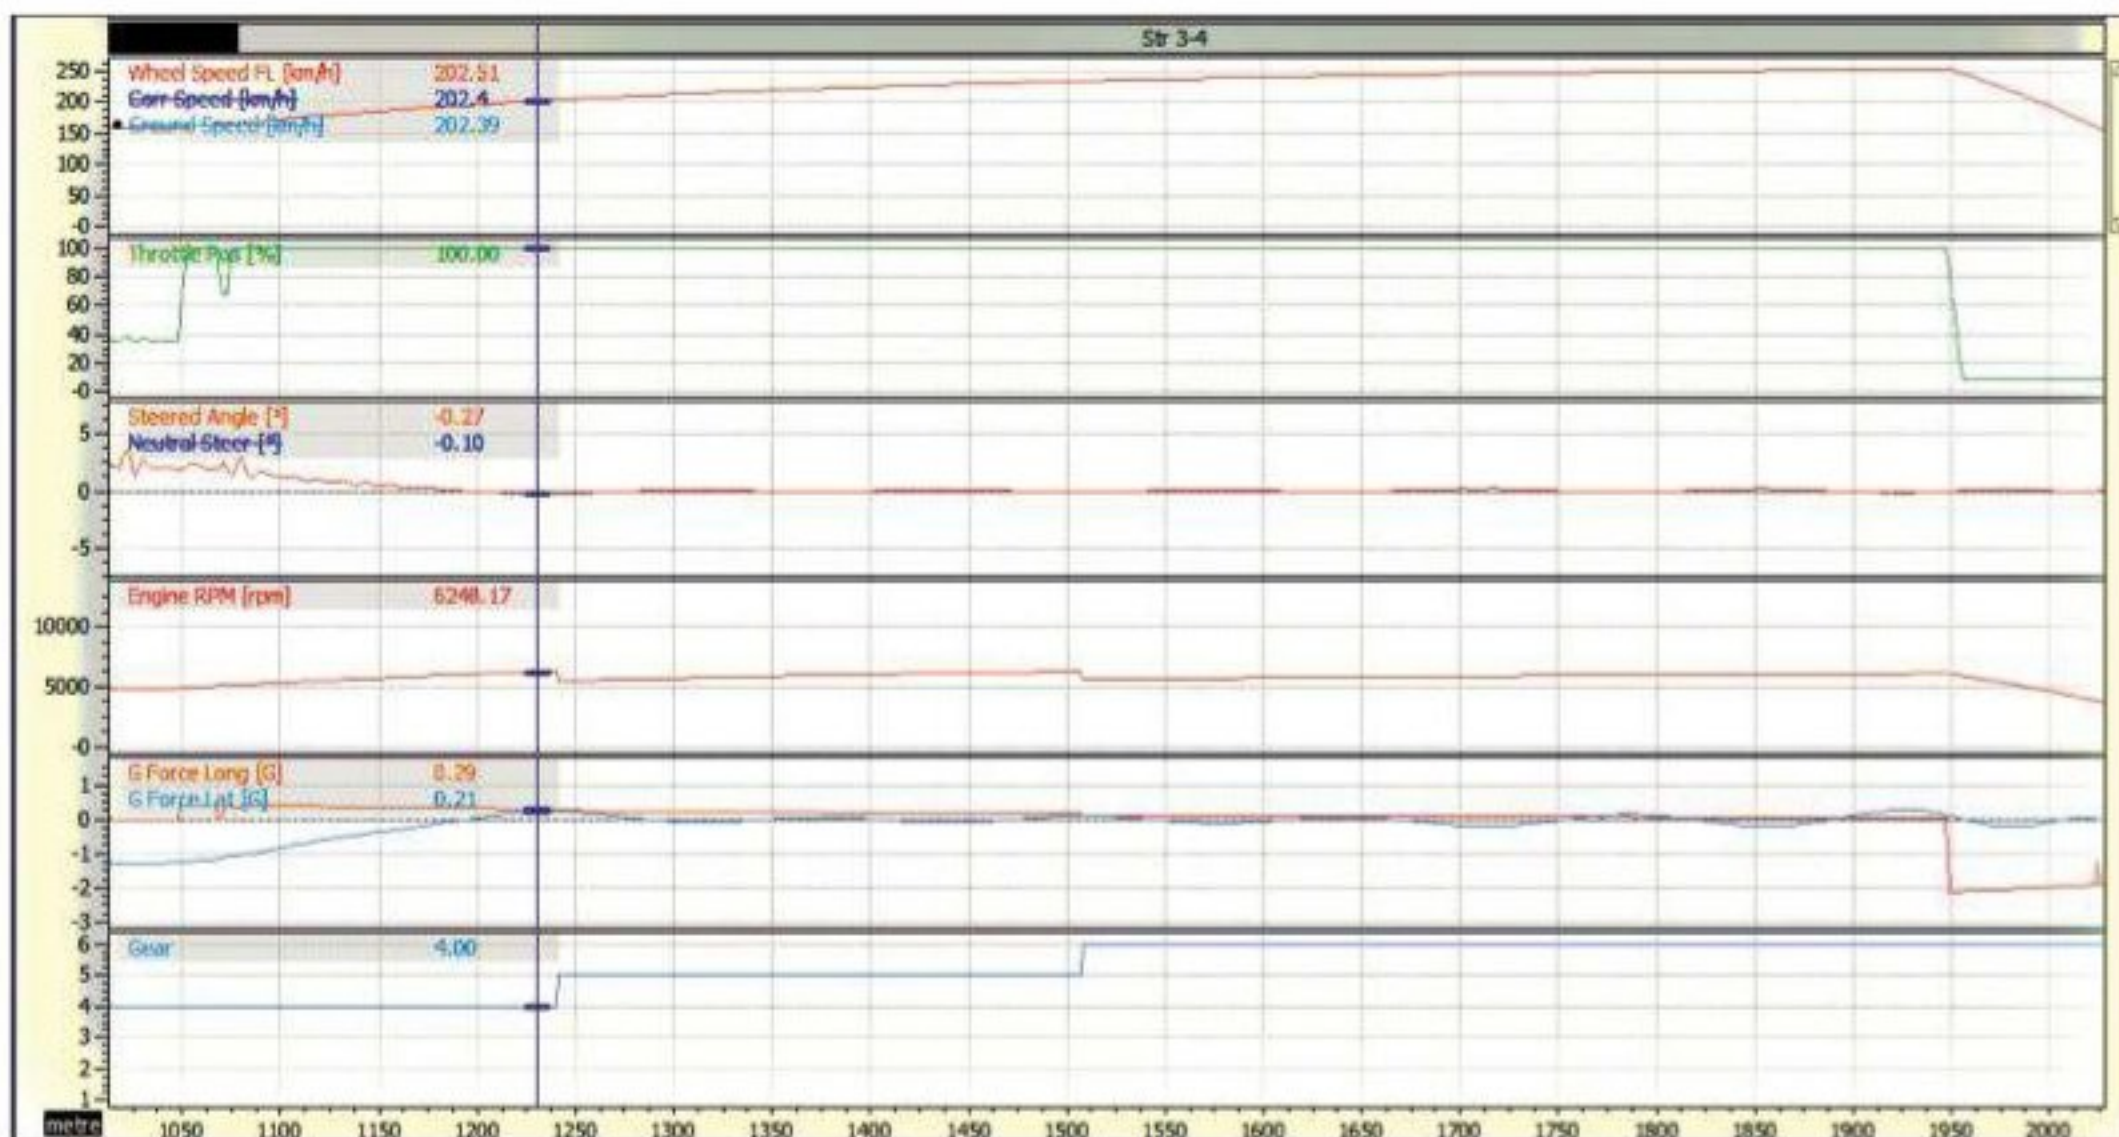

Figure 2: required channels for engine curve calculation
need from our data to do this is illustrated in figure 2.
- The first step is to export all the channels listed in figure 2 to a csv (comma-separated values) file. Concentrate on straight data only.